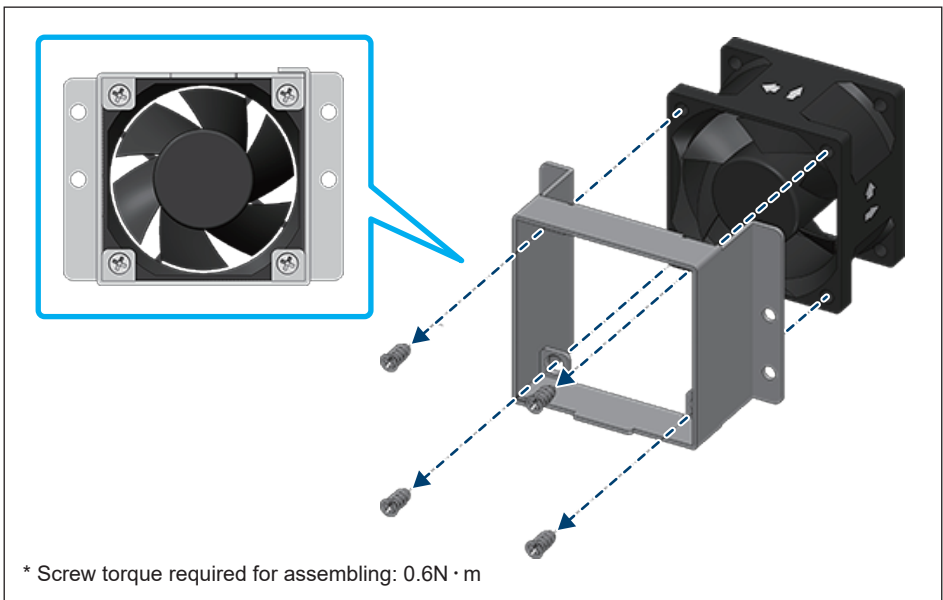

Figure 5-19: Replace with a new fan
- (5) Clean assembly or replace with a new fan. (shown in **Figure 5-19**)
- (6) Reassemble using a tightening torque of 7 lbf-in.